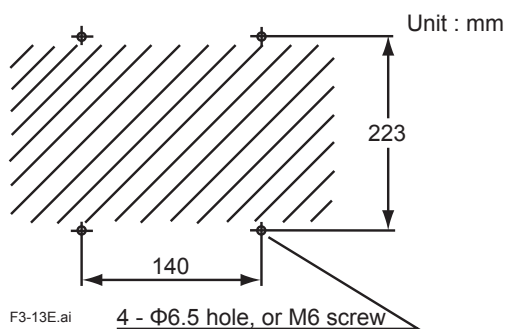

Figure 3.18 Mounting holes
- (1) Make a hole in the wall as illustrated in Figure 3.18.